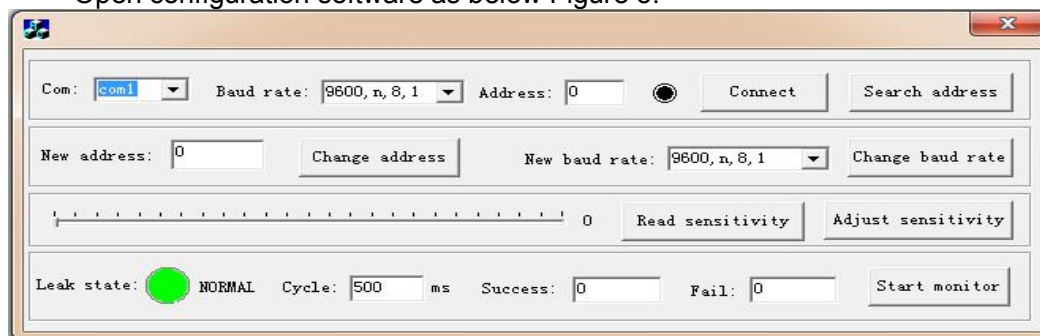

Figure 3: Address and baud rate settings
- Open configuration software as below Figure 3.